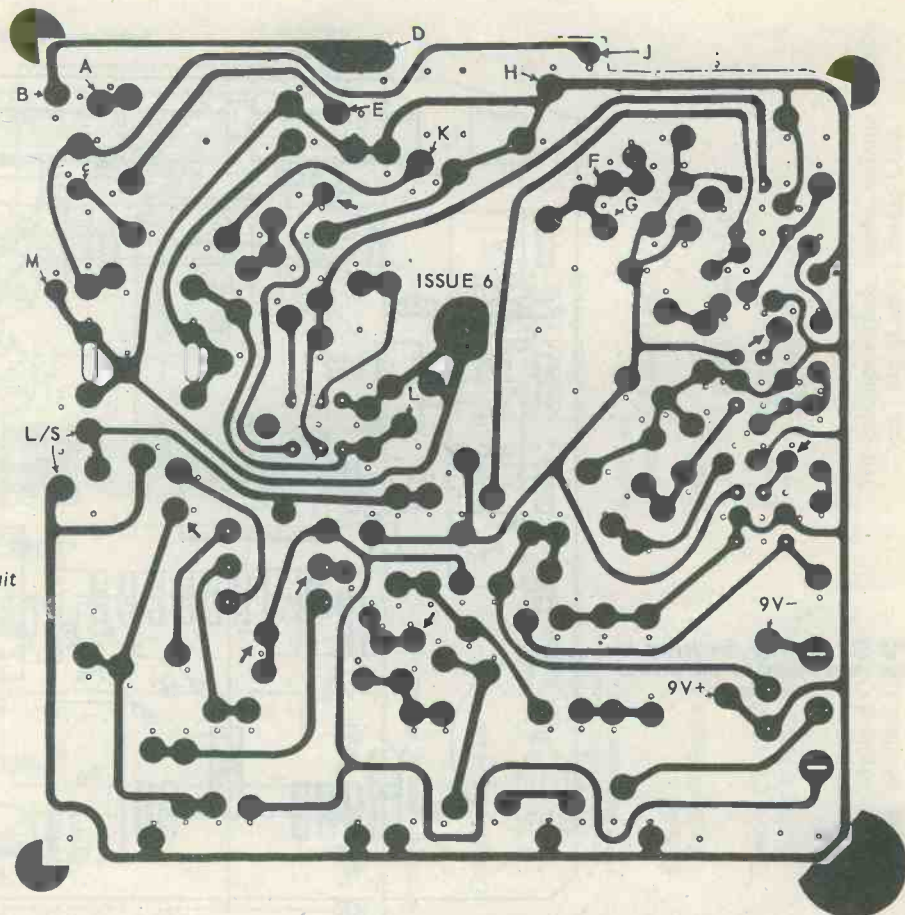

Fig. 3. The printed circuit
10. Fit the battery leads. Use 9in lengths of red and black p.v.c. insulated wire. Solder the black lead to the point marked "9V—" on the printed circuit and the red lead to the point marked "9V+". (see Fig. 3.) Pass the wires up and down through